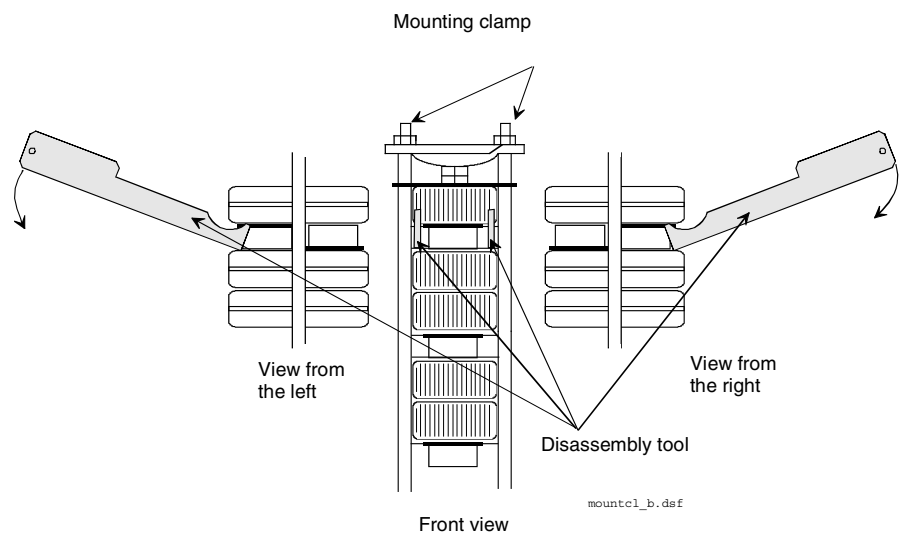

Figure 5-2 How to use the disassembly tool
5. Attach the disassembly tool at the faulty thyristor and prize open the upper and lower heat sinks (see figure 5-2).